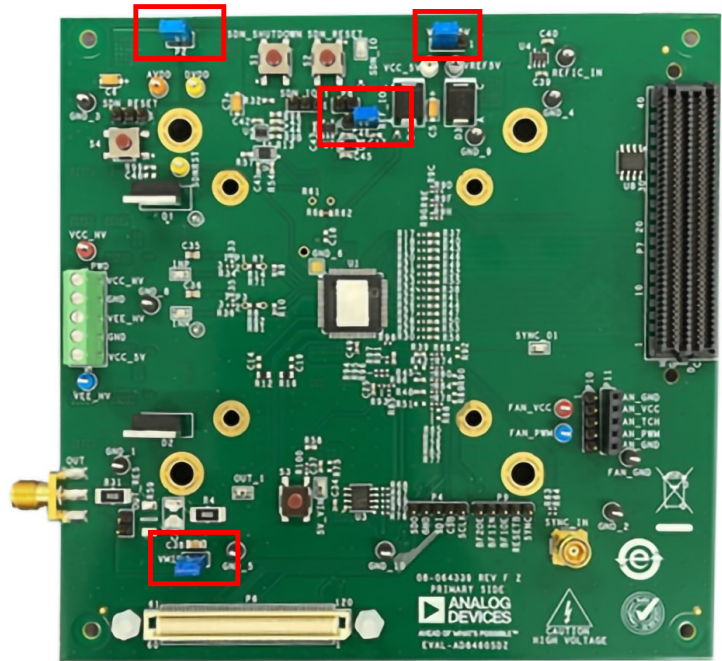

Figure 5. AD8460 Evaluation Board Factory Default Jumper Position
1. Confirm the jumpers are in the factory default positions, as shown in Figure 5.